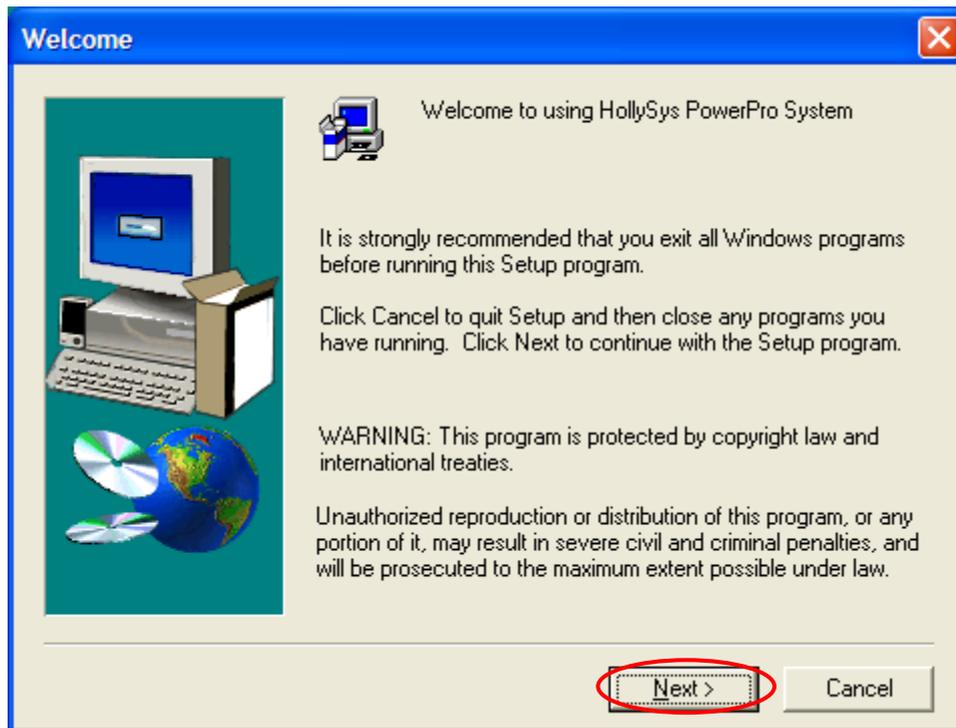

Figure 1-1-1 Installation Steps (1)
- Click the “Next” button on the installation interface, as shown in figure 1-1-1.